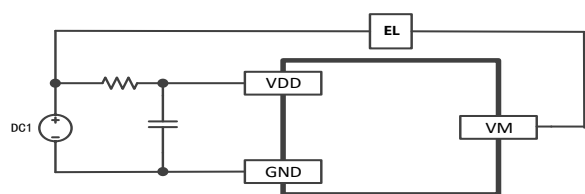

Figure6-3
- a. According to the figure6-3, connect the DC1 power supply to the B + and GND pins of the system board and set the voltage to about 3.0V/3.6V/4.2V. Connect the electronic load from B + to VM and observe the waveform.